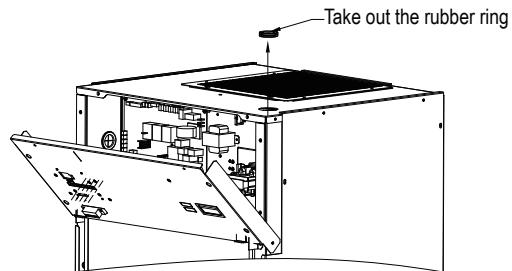

Fig 1
- 1- Remove the Bushing form wiring crossing hole, see Fig 1.